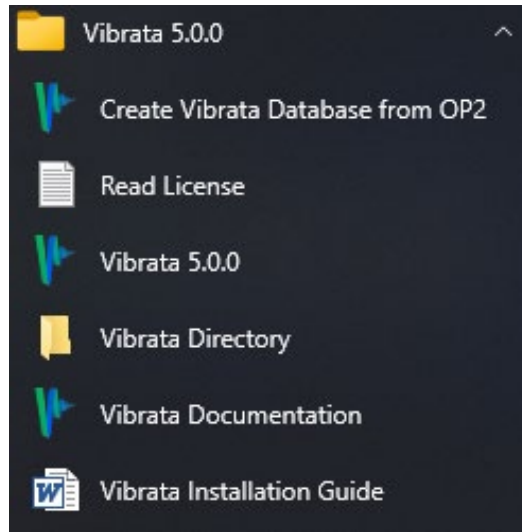

Figure 2-11. Access the .vra5 translation utility from the Start menu.
2. Access the translation utility from the Start menu as shown in Figure 2-11.